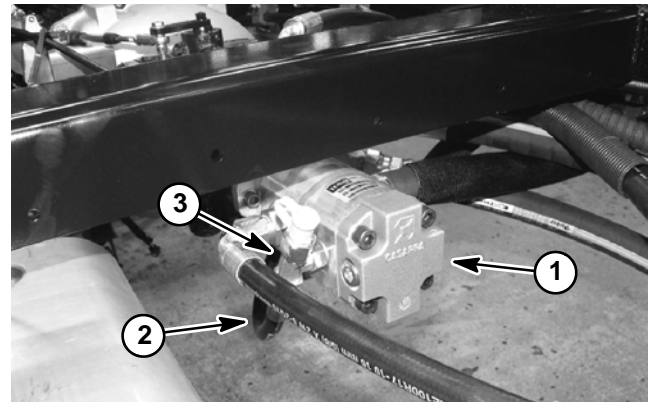

Figure 37
3. With the engine off, clean tee fitting and hydraulic hose on left side of rear gear pump section (Fig. 37). Disconnect hydraulic hose from the tee fitting.
3. With the engine off, clean fitting and hydraulic hose on left side of front gear pump section (Fig. 37). Disconnect hydraulic hose from the fitting.